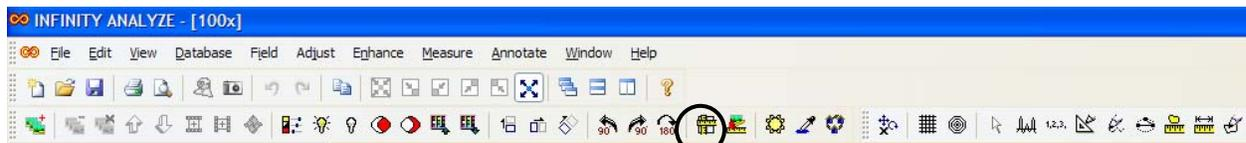

Figure 1: Calibration Icon
**Step 2:** Using the captured image of the stage micrometer as the active image, select the *Calibration* icon as shown in Figure 1.